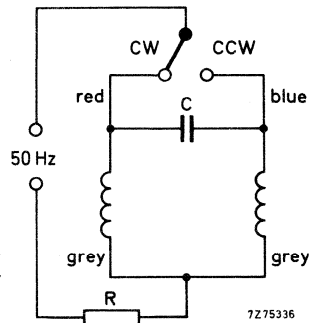

Fig. 3 Connection of the series resistor.
2. For operation from 220 V, 50 Hz mains voltage, a series resistor of 6,8 k Ω , 2,5 W should be used (Fig. 3).